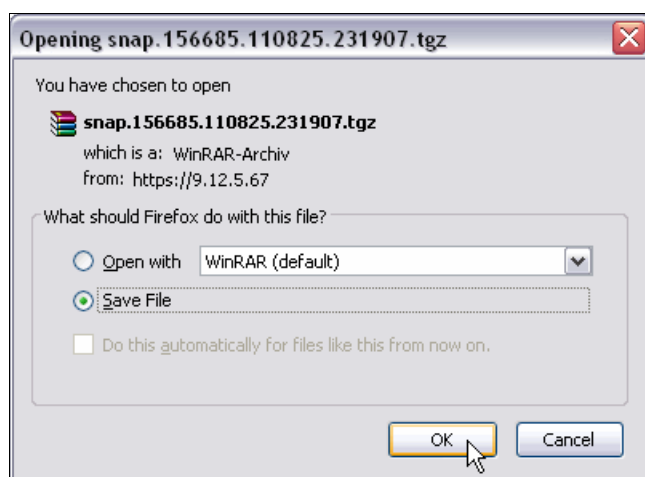

Figure 15-4 Saving the log file on your system
3. Select where you want to save these logs, as shown in Figure 15-4. Then, click **OK**.